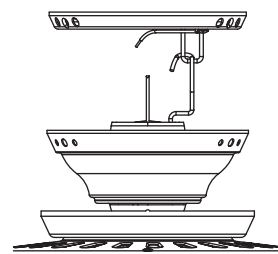

Figure 19 - Rotating the fan
1. Rotate the fan 180° clockwise from the initial position when hanging the fan. The arrows on the hanger ball and on the ceiling plate should be pointing in the same direction and should be pointing towards the tab hole on the canopy. Refer to Figure 19.